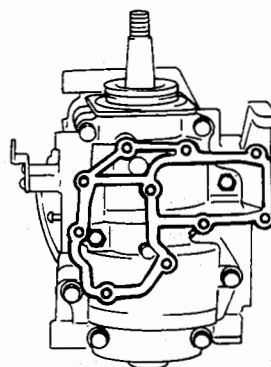

Fig. 34 Removing the crankcase tightening bolts
- 4) Remove the cylinder crankcase tightening bolts (H845-8, H840-2). (Fig. 34)